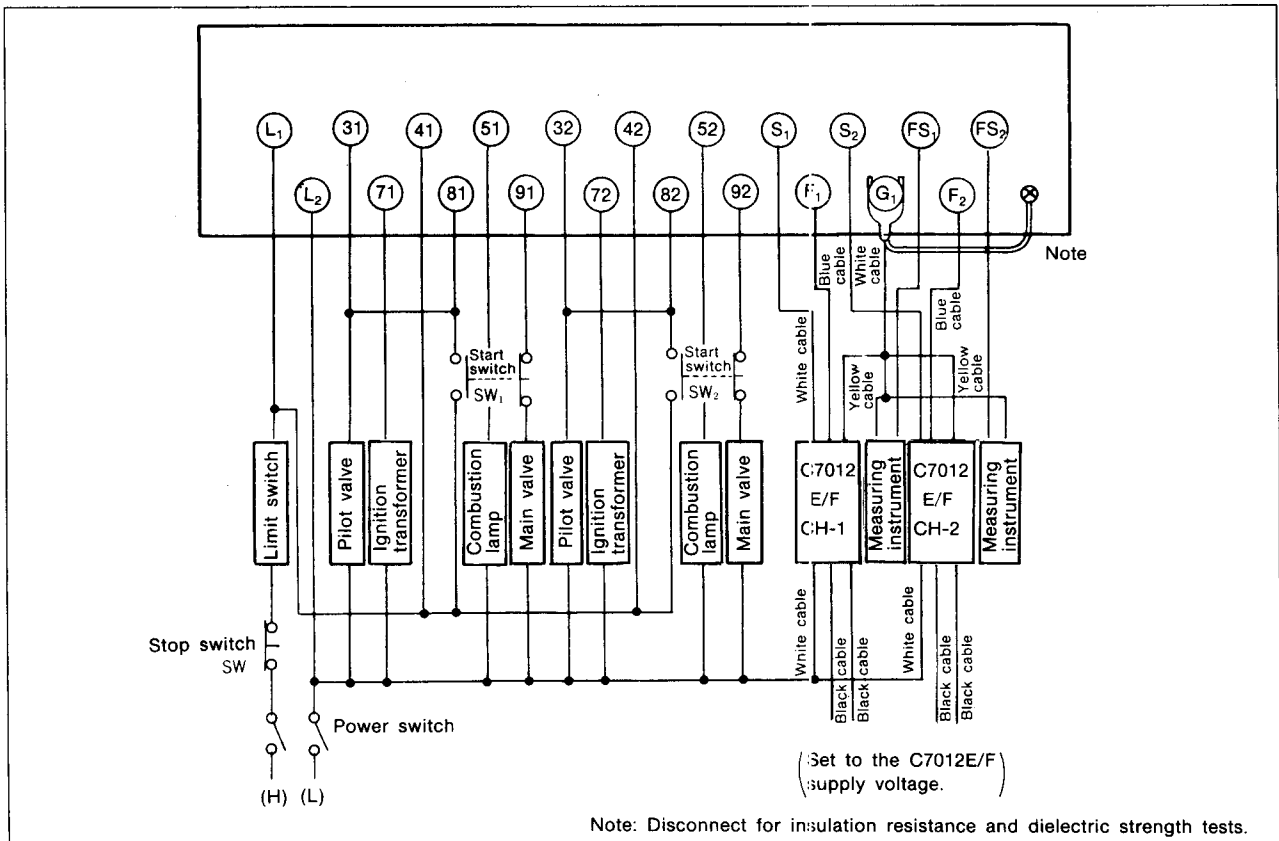
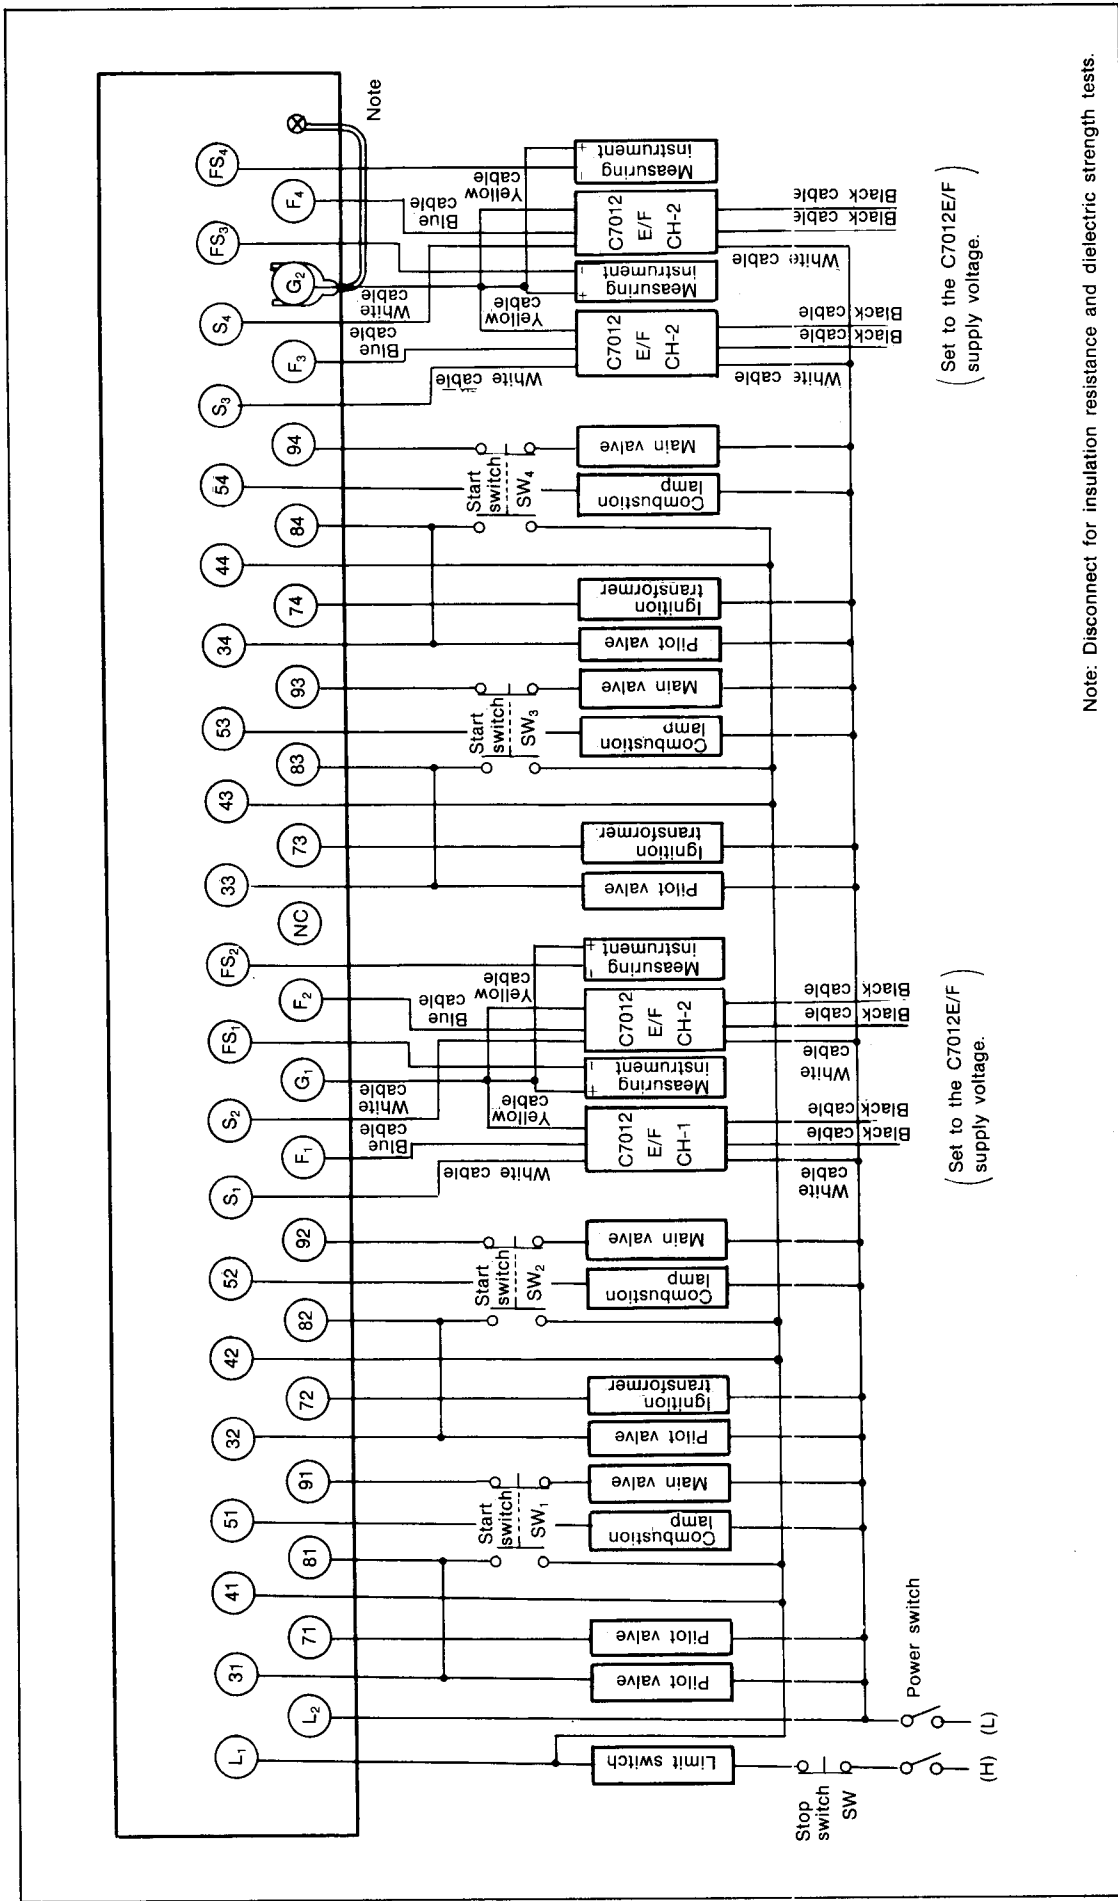

Fig. 5 R4332A (2ch) External Wiring (Example of individual manual ignition system)
Fig. 6 R4334A (4cH) External Wiring (Example of individual manual ignition system)
- Perform wiring for the 2-burner R4332A according to Fig. 5, and the 4-burner R4334A according to Fig. 6.
- Wiring diagram (Fig. 5 and 6) shows an individual manual ignition system. The stop switch is used to stop all channels.